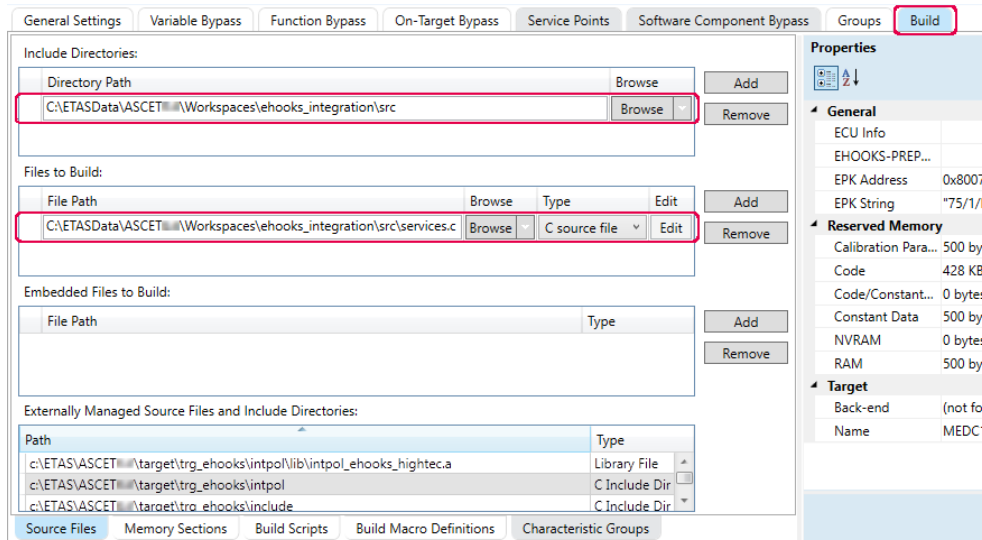

Figure 7.5: Adding a source file to the EHOOKS build
5. Add the path(s) to the include directories and the names of the source files and/or library files for your arithmetic services to the EHOOKS build as shown in Figure 7.5.
- D. Add the include path, source files and/or library files for your interpolation routines to the EHOOKS build as shown in Figure 7.5 on page 76.